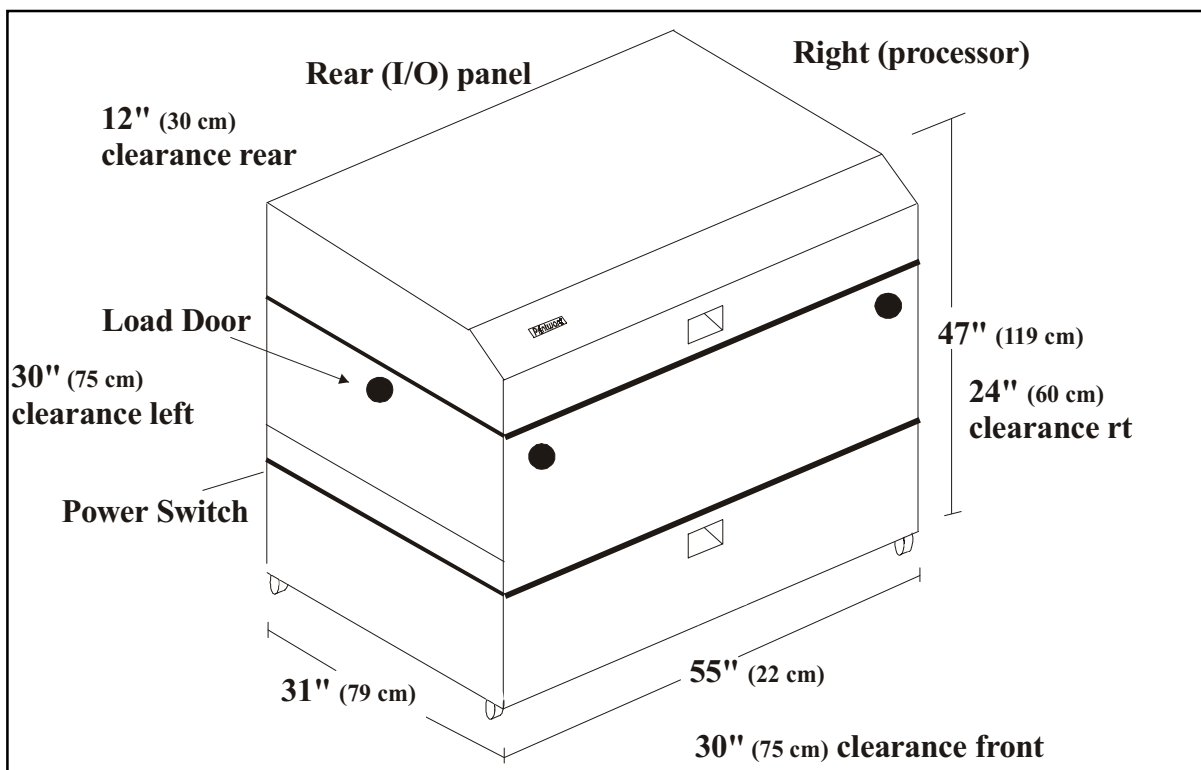

Figure I-1. Location of the Power Switch on the Platesetter
Check the necessary dimensions at the physical installation site (e.g. width of doors, etc.) with the Platesetter dimensions. To ensure optimal operation allow clearances of at least 30" (75 cm) on the left, 24" (60 cm) on the right, 30" (75 cm) in front, and 12" (30 cm) in the rear (see Figure I-1 on page 8). After uncrating, the depth of the Platesetter (which is on casters) is approximately 31" (79 cm).
8. Connect the two interface cables between the RIP CPU and the Platesetter. The Platesetter I/O Panel is located on the top rear of the machine (see Figure I-1).
1. The power switch for the Platesetter is located on the rear of the machine. To turn on the Platesetter, flip the switch up (see Figure I-1).